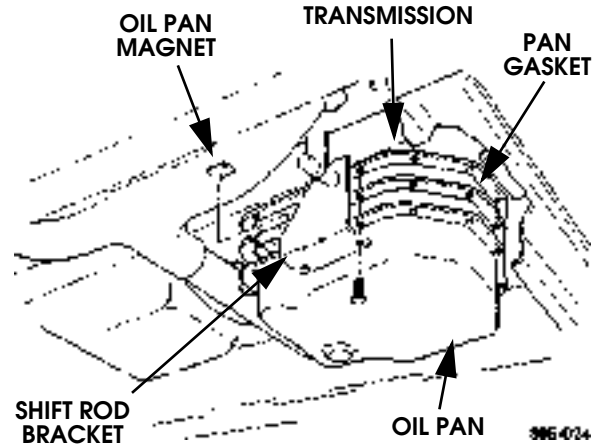

Figure 5-29: Oil Pan Removal/Installation
- Move shift rod bracket aside and remove pan gasket, and oil pan (Figure 5-29). Pan gasket is reusable.